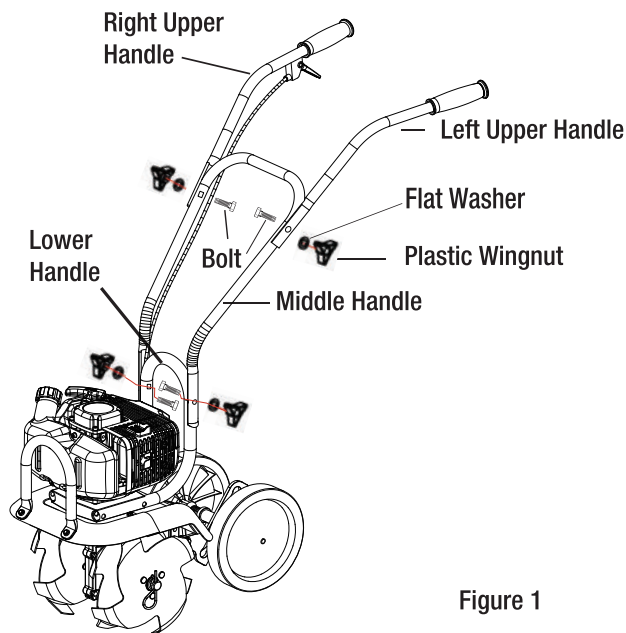

Figure 1
- Assemble the middle handle to the lower handle with the 2 bolts and wing nuts. Refer to Figure 1. Firmly hand-tighten the wing nuts.
- Attach the upper handles to the middle handle using the two remaining bolts and wing nuts. See Figure 1.